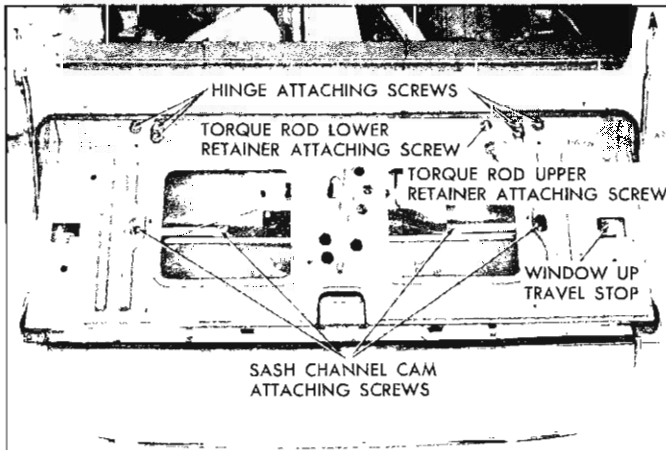

Fig. 39—Tail Gate Hardware
8. With the aid of a helper remove tail gate to hinge attaching screws (fig. 39) from both hinges and remove tail gate assembly from body.
To adjust the tail gate assembly "up or down" or "sideways" in the body opening loosen the tail gate hinge to inner panel, and upper and lower torque rod retainer attaching screws (fig. 39), shift tail gate to desired position and retighten screws.
4. Loosen upper and lower torque rod retainer attaching screws sufficiently to disengage torque rod from retainers (fig. 39).
(Refer to fig. 39)
NOTE: To open the tail gate on styles with electric windows when window assembly is removed, depress tail gate lock remote control locking lever through access hole at location "A" (fig. 39), and at the same time operate tail gate remote control inside handle.